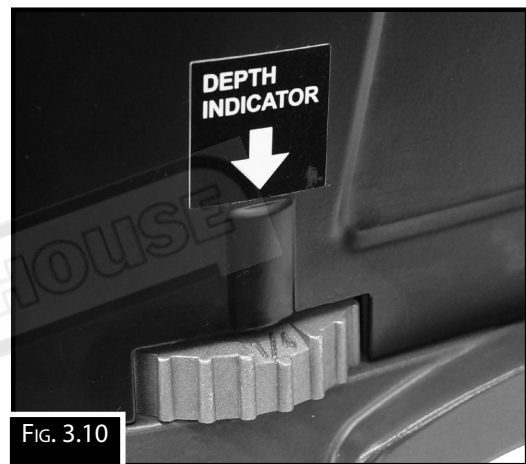

FIG. 3.10
**Depth Stop Indicator:** This depth stop dial is mounted on the lower side of machine and controls the depth of cut for finished board thickness. with pre-set heights of 1/8", 1/4", 3/8", 1/2'. (Fig. 3.10)